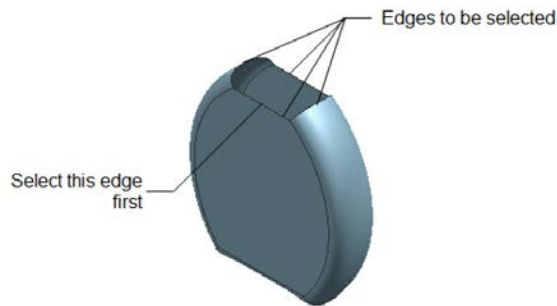

Figure 11-51 Edges to be selected
- g. Extrude edges of the model, refer to Figures 11-51 and 11-52.
1. Choose the **Extrude** tool from **Menu > Insert > Design Feature** in the **Top Border Bar** and select the edges of the model, refer to Figure 11-51.